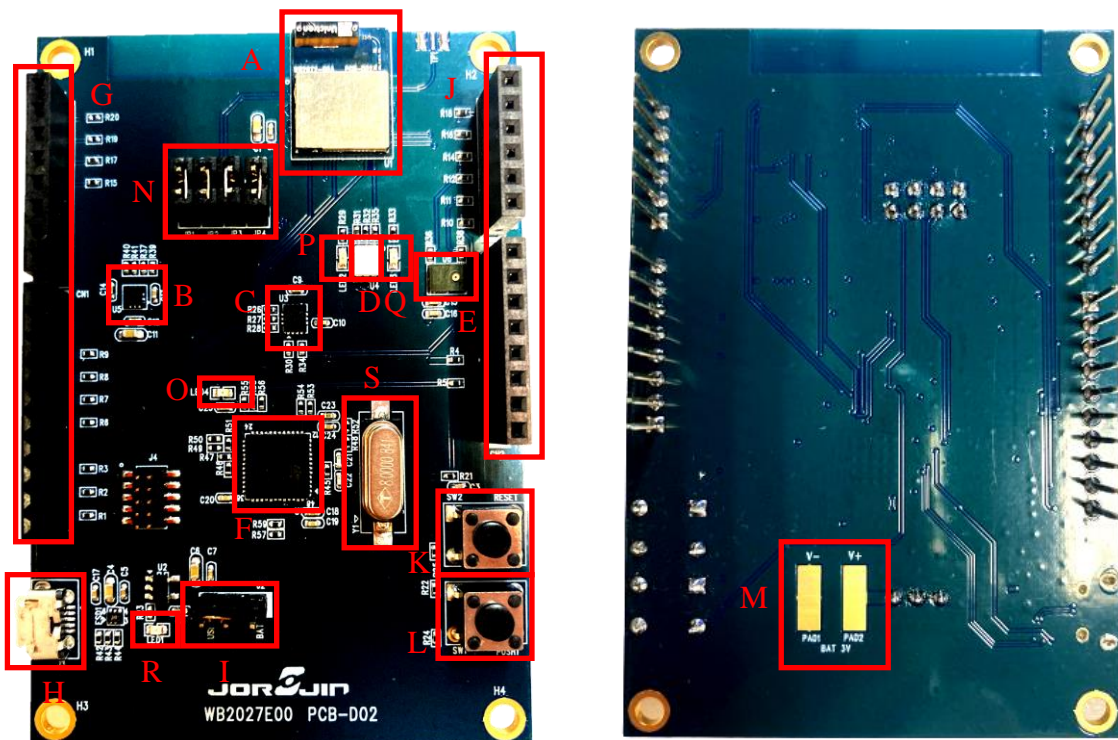

Figure 2-1. Hardware description of Evaluation Kit
LED1 green LED (Figure 2-1, region R) signals the board is being powered, either via:
- micro USB connector J3 (Figure 2-1, region H)
The following jumpers are available (Figure 2-1, region N).
1. An LPS22HB (Figure 2-1, region B) piezoresistive absolute pressure sensor which functions as a digital output barometer. The device comprises a sensing element and an IC interface which communicates through I²C from the sensing element to the application.
2. An LSM6DSOX (Figure 2-1, region C) 3D digital accelerometer and 3D digital gyroscope with embedded temperature sensor which communicates via SPI interface. One line for interrupt is also connected.
WB2072-00 signal test points are shared on two Arduino connector rows: CN1, CN3 (Figure 2-1, region G) and CN2, CN4 (Figure 2-1, region J).
The board has one user button to reset the microcontroller (Figure 2-1, region K) and one further button for application purposes (Figure 2-1, region L).
LED) are available on the board (Figure 2-1, regions R, O, P, Q and D).
The most important features of the STM32F103xx microcontroller (Figure 2-1, region F) are: